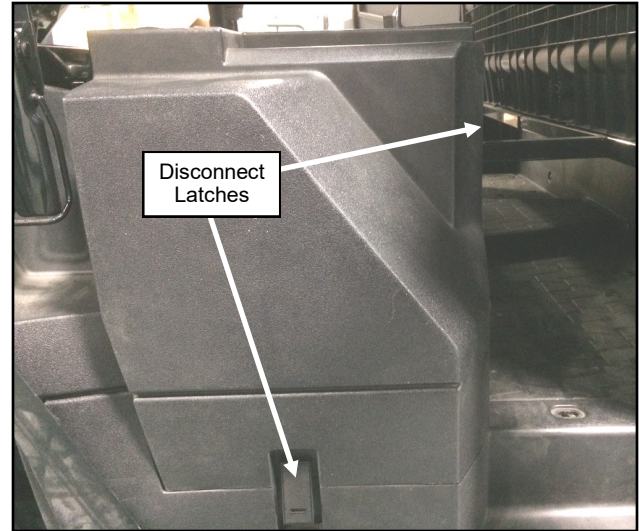

Fig. 2.3 (Remove Battery Cover, Pro-DXT)
- 2.3** Disconnect the (2) small latches found on either side of the battery cover and set aside the cover per fig. 2.3.